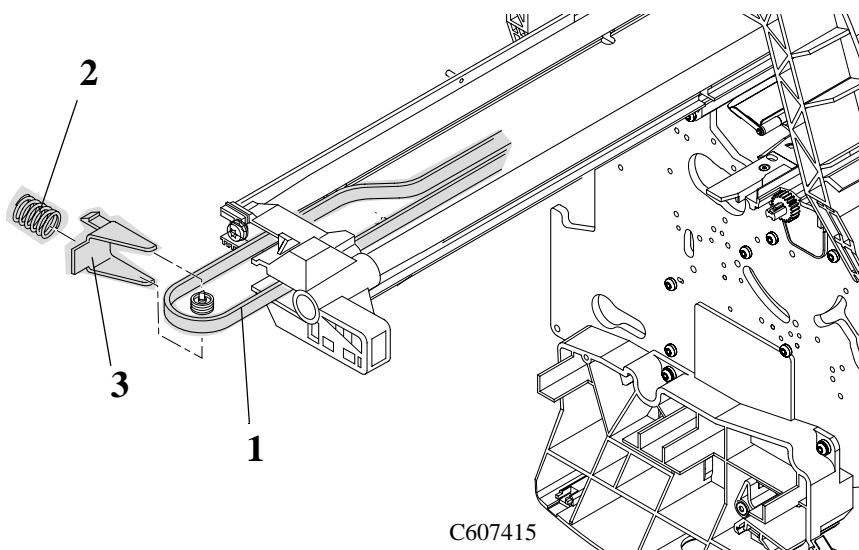
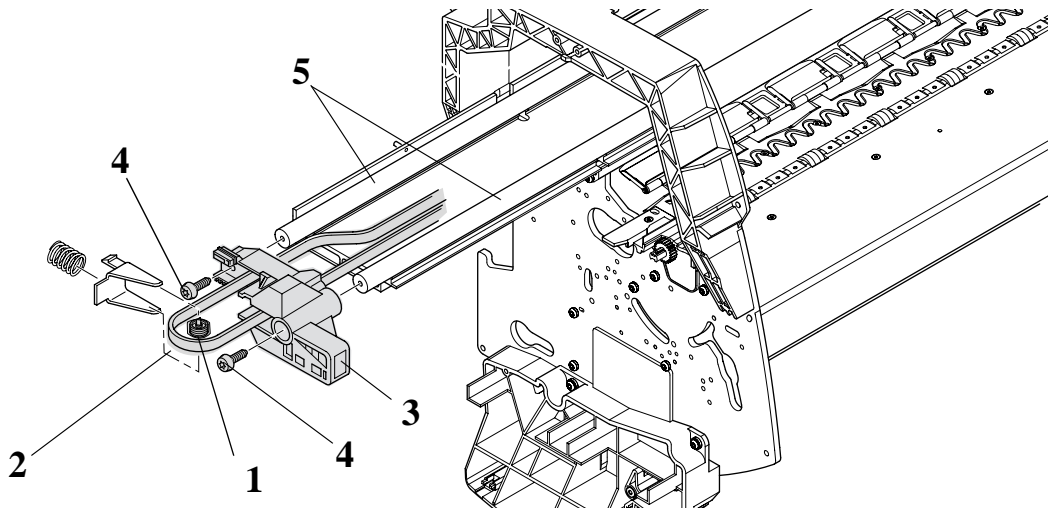

Figure 40: Tensioner Assembly
Figure 42: Tensioner Assembly
Refer to Figure 40 to Figure 42.
2. To release the tension on the belt (item 1) from the left hand side of the Printer, squeeze the spring (item 2) using the tensioner wedge clip (item 3) until you hear it click into place (refer to Figure 40).
For steps 4 to 6, refer to Figure 42.